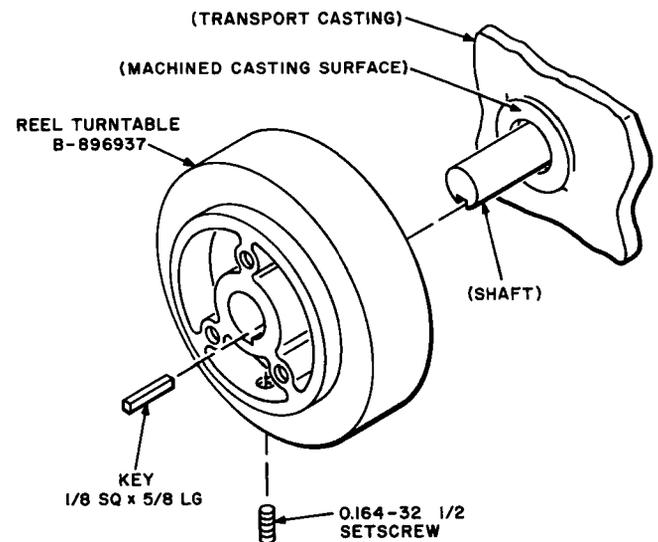

Fig. 9—Reel Turntable and Mounting Details
**Caution:** Use extreme care to prevent damage to braking surface of reel turntable (Fig. 9).
- (1) During disassembly of reel hold-down knob, take care not to mar the slotted area of
- (2) Unscrew the hold-down bar by turning it counterclockwise; remove hold-down bar, two hardened steel washers, thrust bearing, and hold-down cap from stud.
- (3) Using the 4-inch E screwdriver, remove three screws and lockwashers and the hold-down base and ring assembly from turntable.
**Note:** Steps (1) through (3) are sufficient for making reel turntable alignment measurements specified in Section 034-360-701. To reinstall hold-down knob, proceed with (13) through (15). If removal of turntable is required, refer to (4) and (5).
- (4) To remove turntable (Fig. 9), use the 5/64-inch Allen wrench to loosen setscrew in turntable; hold brake lever (Fig. 8) away from braking surface of turntable; remove turntable and key (Fig. 9) from shaft.
(12) Using a clean KS-2423 cloth, clean the outermost surface of hold-down base and the inside surface of hold-down ring. Then, in an area separate from the recorder and any other electrical apparatus, spray these surfaces with S-122 fluorocarbon dry lubricant and slide ring onto base. Wipe off any excess lubricant with the cloth.
(13) Using the 4-inch E screwdriver, install hold-down base and ring assembly with three screws and external tooth lockwashers on turntable (Fig. 9).